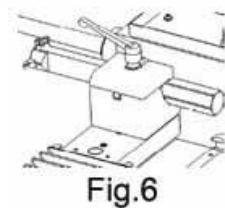

Fig. 6
2). Place the tool bar tube over the clamp stud, add the washer and secure using the clamp handle. (Figure 6)